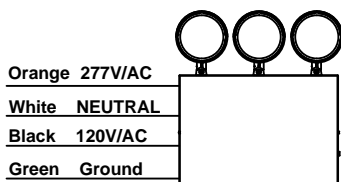

Fig 4
5. Make proper electricals connection, black lead is for 120V, red lead is for 277V, white lead is NEUTRAL, green lead is for ground, cap unused lead (see Fig 4). Secure excess wire inside J-Box.